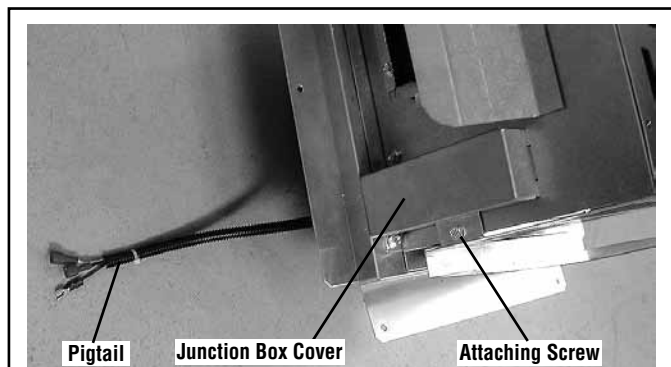

Figure 22 - Bottom Of Termination
- Locate a locally procured electrical junction box within reach of the termination wiring pigtail (refer to *Figure 22 on Page 19*) and route the pigtail to the junction box as the termination is installed.
- Remove the junction box cover from the termination by removing the attaching screw (refer to Figure 22).
- Loosen the strain relief on the termination shown in Figure 22. Pull the pigtail in and shorten it to fit within the junction box cover.